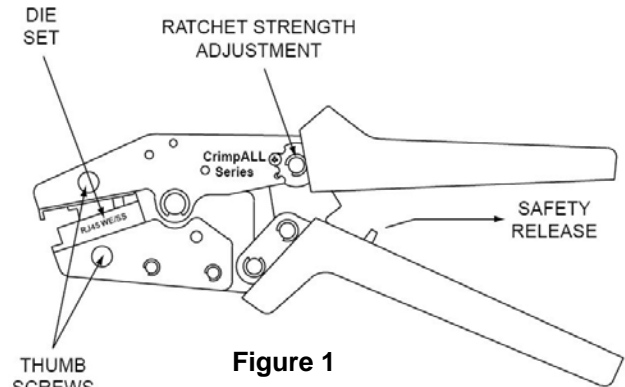

Figure 1
The On-Q/Legrand High Performance Modular Plug Hand Tool, PN 364406-01 (see **Figure 1**), is used to crimp RJ45 plugs, PN 364405-01, to category UTP cable. The tool comes with interchangeable die sets and can be used for other terminations using Paladin Tool die sets.
- a. If not already installed, install the required die set in the crimp tool by removing the thumb screws located in the jaws. Install the die set with the text facing outward when crimper is in position shown in **Figure 1**.